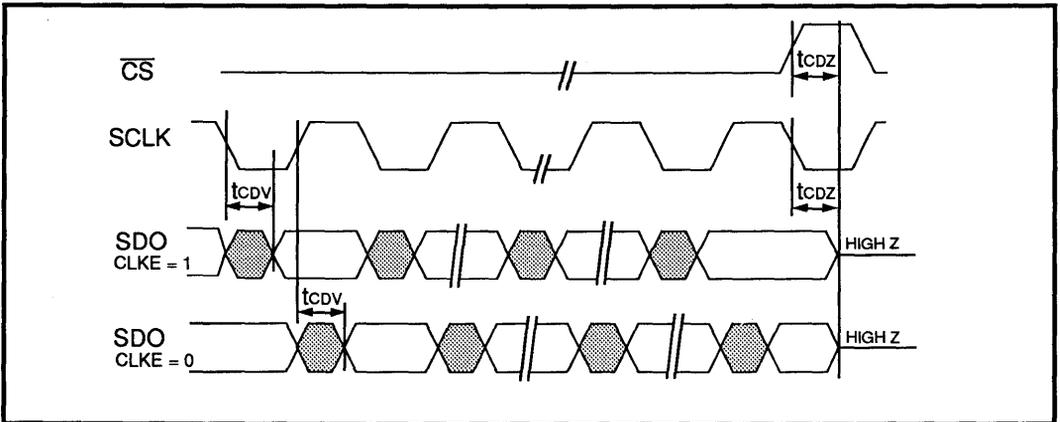

FIGURE 6: SSI 78P300 Serial Data Output Timing Diagram
The SSI 78P304A serial port is addressed by setting bit A4 in the Address/Command byte, corresponding to address 16. The SSI 78P304A contains only a single output data register so no complex chip addressing scheme is required. The register is accessed by causing the Chip Select (CS) input to make a transition from high to low. Bit 1 of the serial Address/Command byte provides Read/Write control when the chip is accessed. A logic 1 indicates a read operation, and a logic 0 indicates a write operation. Table 6 lists serial data output bit combinations for each status. Serial data I/O timing characteristics are shown in Table 6, and Figures 6 and 7.